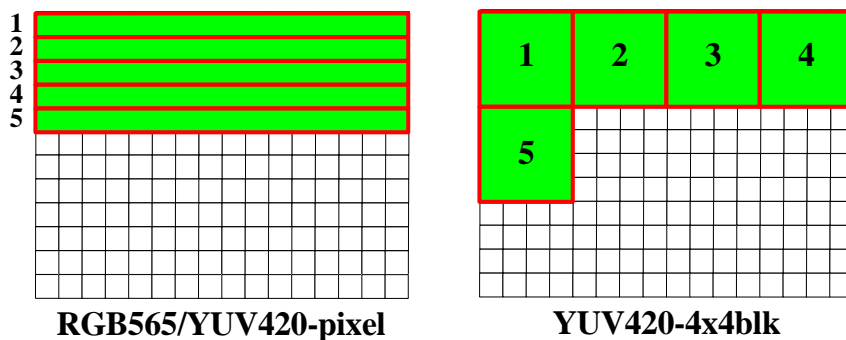

Fig. 25 (a) RGB565/YUV420 sequential format, (b) YUV420 4x4-block format.
- In video playback mode, the source is from the video codec buffer in YUV420 format. In this mode, the TV controller and MPEG4 or H.264 decoder can also communicate to achieve the best performance. see **Fig. 25**.
- In image playback mode, the source is in RGB565 format. In this mode, still images can be displayed. The LCM controller can direct the image path to the TV controller. When the LCM controller sends frames to the frame buffer as it does for the LCD display, the TV controller retrieves the frames for display. see **Fig. 25**.